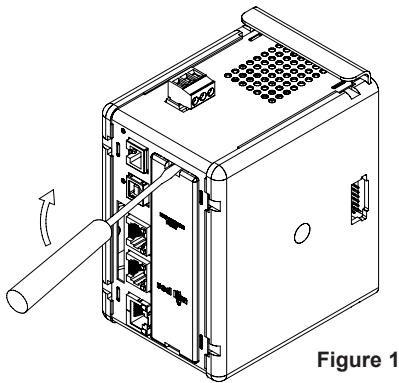

Figure 1
2. Insert a flat-bladed screwdriver into the slot at the top of the expansion port cover. Gently apply pressure on the screwdriver in an upward direction until the expansion port cover disengages from the unit as shown in Figure 1.